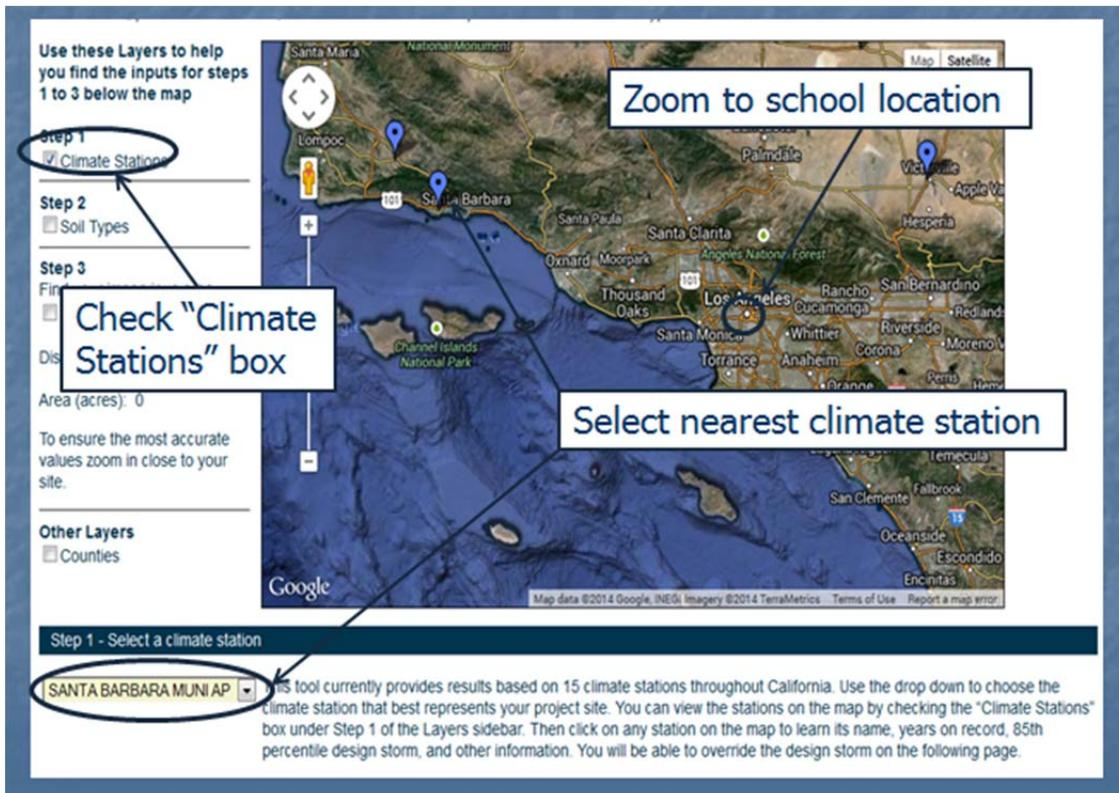

Figure 4. LID Sizing Tool – Zoom to School Location and Select Climate Station
- b. Select climate station (see Figure 4)